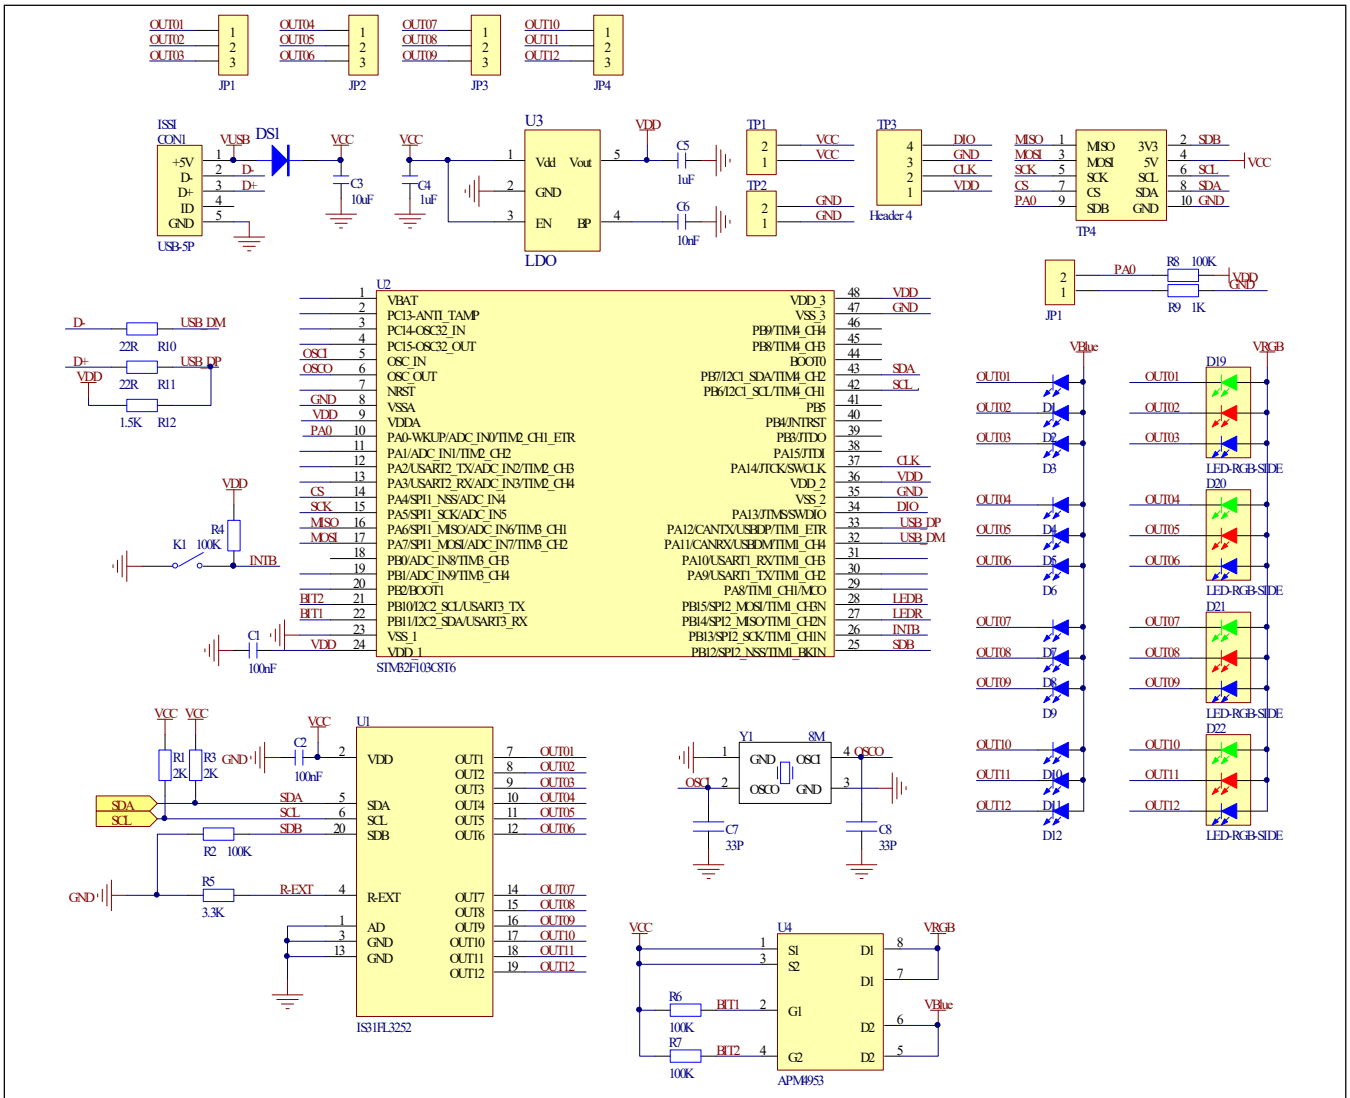

Figure 3: IS31FL3252 Application Schematic
*Bill of Materials, refer to Figure 3 above.*